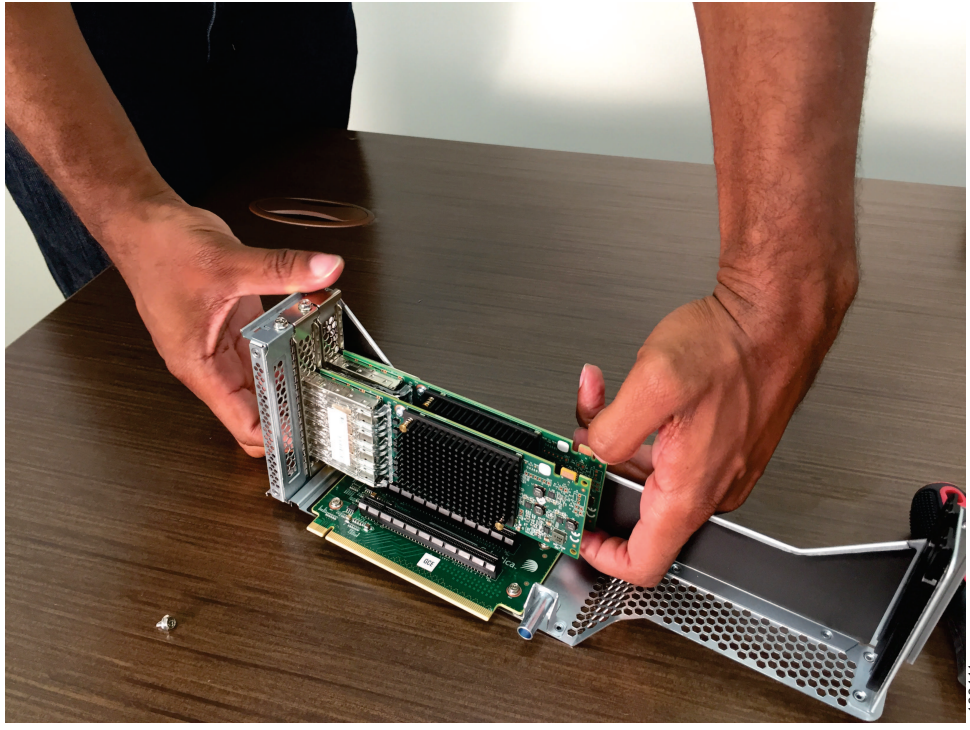

Figure 246. Unseating the adapter
3. Unseat the adapter from the connector, as shown in Figure 246 on page 294.